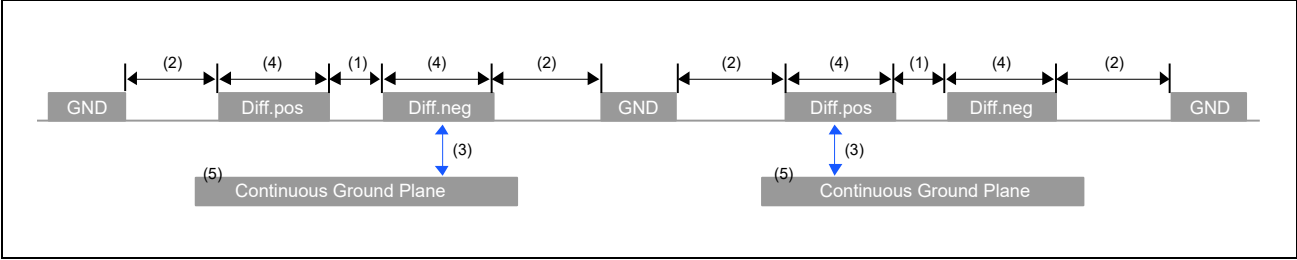

Figure 1.2 Signal Trace Example 1
Between Diff. and GND shields $\geq S$ Note: Place GND shields on both sides of Diff.	(2) in Figure 1.2
Between Diff. and Continuous Ground Plane $\geq S$	(3) in Figure 1.2
Line width $\geq S$	(4) in Figure 1.2
Between Diff. and GND shields $\geq 2S$ Note: Place GND shields on both sides of Diff.	(2) in Figure 1.2